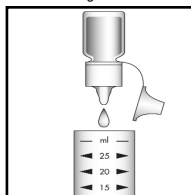

Figure 2
2. Add 10 drops of A-9001 Activator Solution (fig 2). Cap the sample cup and shake it to mix the contents well.
4. Add 5 drops of A-9000 Neutralizer Solution (fig 2). Cap the cup and shake it to mix the contents well.